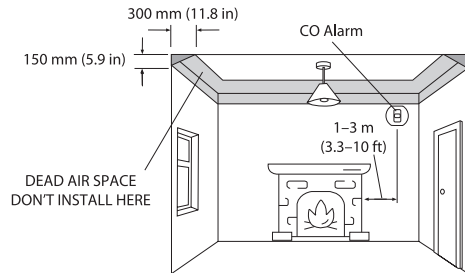

Figure 1: Installation in a room with a fuel-burning appliance
**1. Installing a CO alarm in a room with a fuel-burning appliance (see Figure 1):**